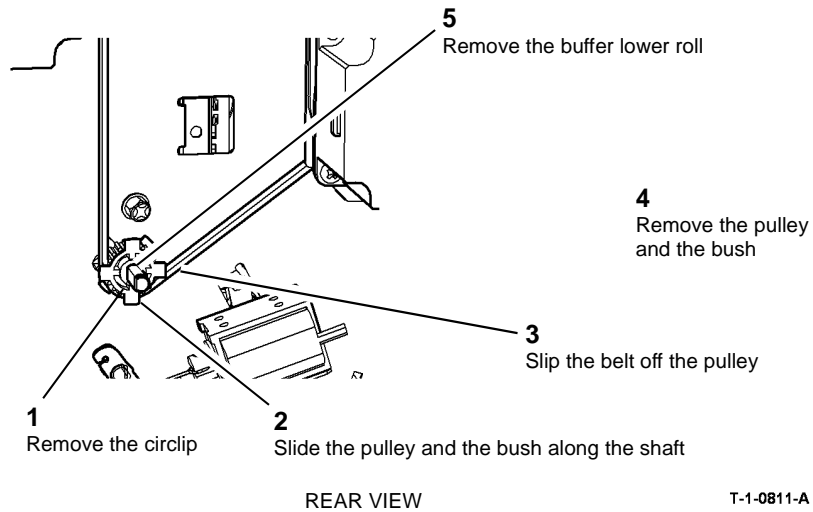

Figure 2 Buffer lower roll removal
4. **Figure 2.** At the rear of the HVF, remove the buffer lower roll.